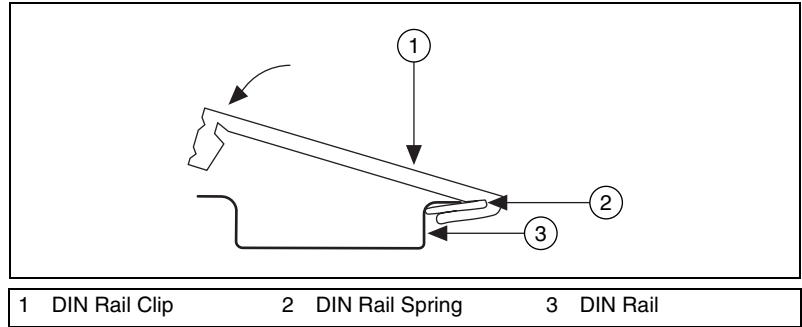

Figure 12. One Edge of the DIN Rail Inserted in a Clip
2. Insert one edge of the DIN rail into the deeper opening of the DIN rail clip, as shown in Figure 12.